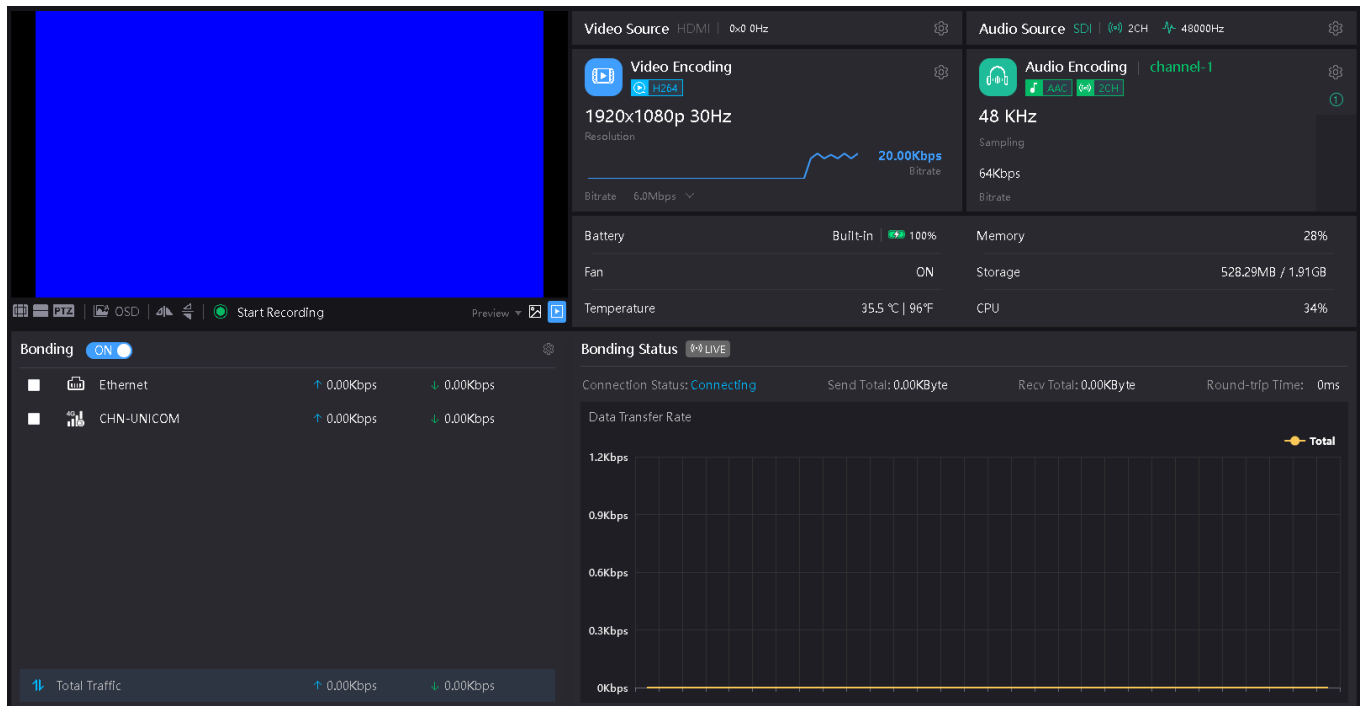

Figure 19: Main interface after logging into the Web UI
1) After normal login, on the encoder's Web management page, you can set encoding parameters and function parameters, etc. The encoder page is shown in Figure 19: